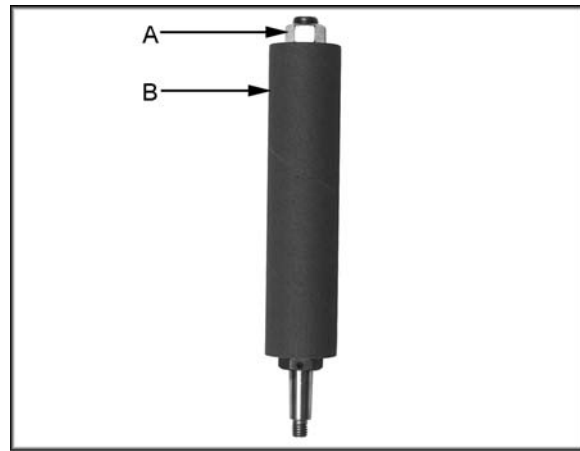

Figure 7
1. Loosen hex nut (A, Figure 7) with a 26mm wrench, or large adjustable wrench.
2. Slide the sanding sleeve (B, Figure 7) off the drum and replace with a new sanding sleeve. **Note:** If the sanding sleeve is not easily removed, cut the sleeve off and clean the drum before reinstalling a new sleeve.